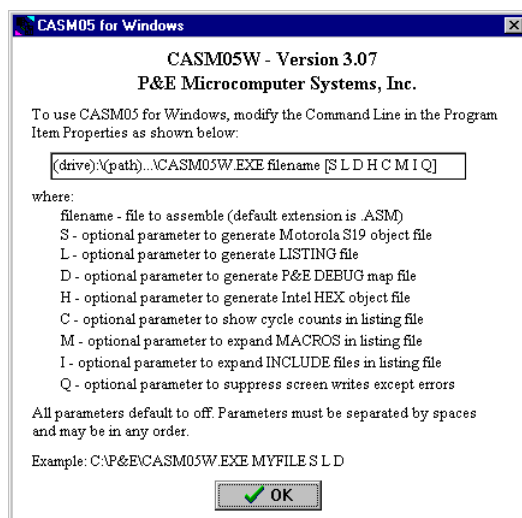

Figure 5-3. CASM05W for Windows Assembler Parameters
- Choose *Normal* to run the assembler in a standard CASM05W window (Figure 5-3).